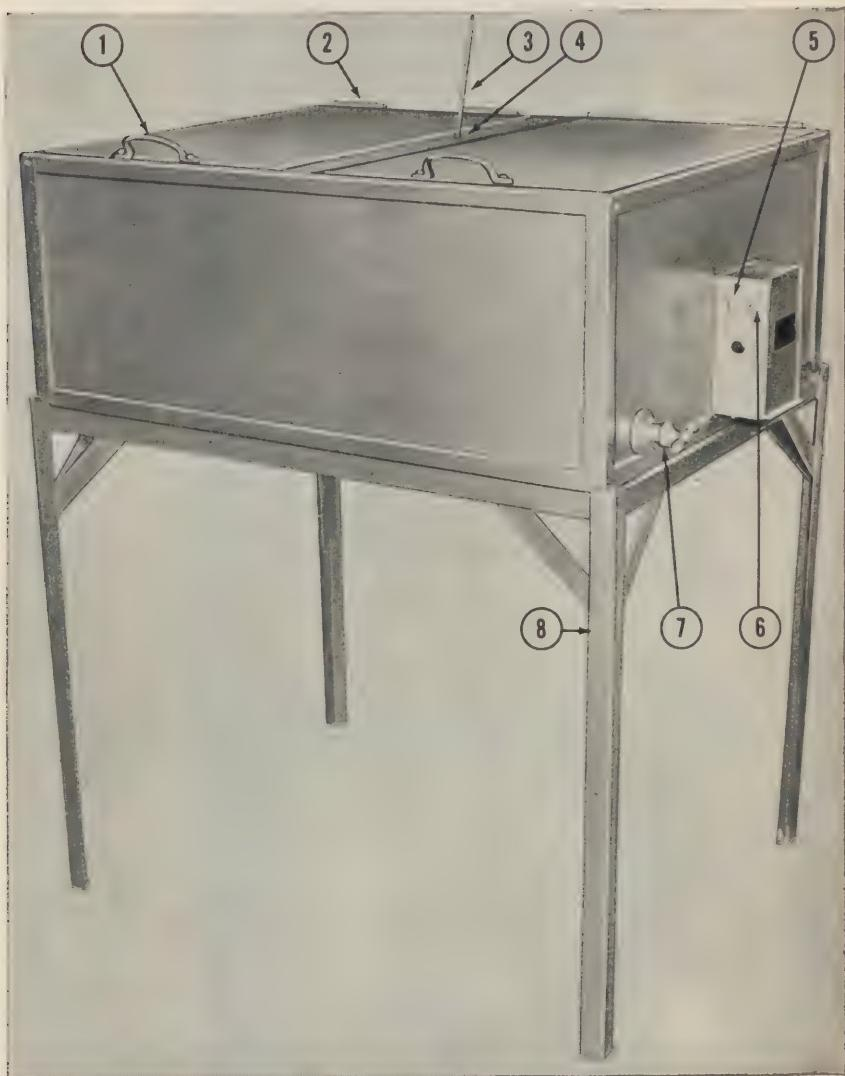

Figure 3. Item No. 4480008 water bath, serological, Wassermann, 110-volt, a-c., d-c.
(3) Insert the thermometer into the thermometer well, (4) figure 3.
(1) Control switch, (5) figure 3. This switch is used to turn the heater "ON" and "OFF."
(2) Auxiliary switch, (6) figure 3. This switch, marked "AUX," controls auxiliary heater elements used for faster initial heating.
(5) Thermometer, (3) figure 3. The thermometer, graduated from 5°-70°C, indicates the temperature of the water.